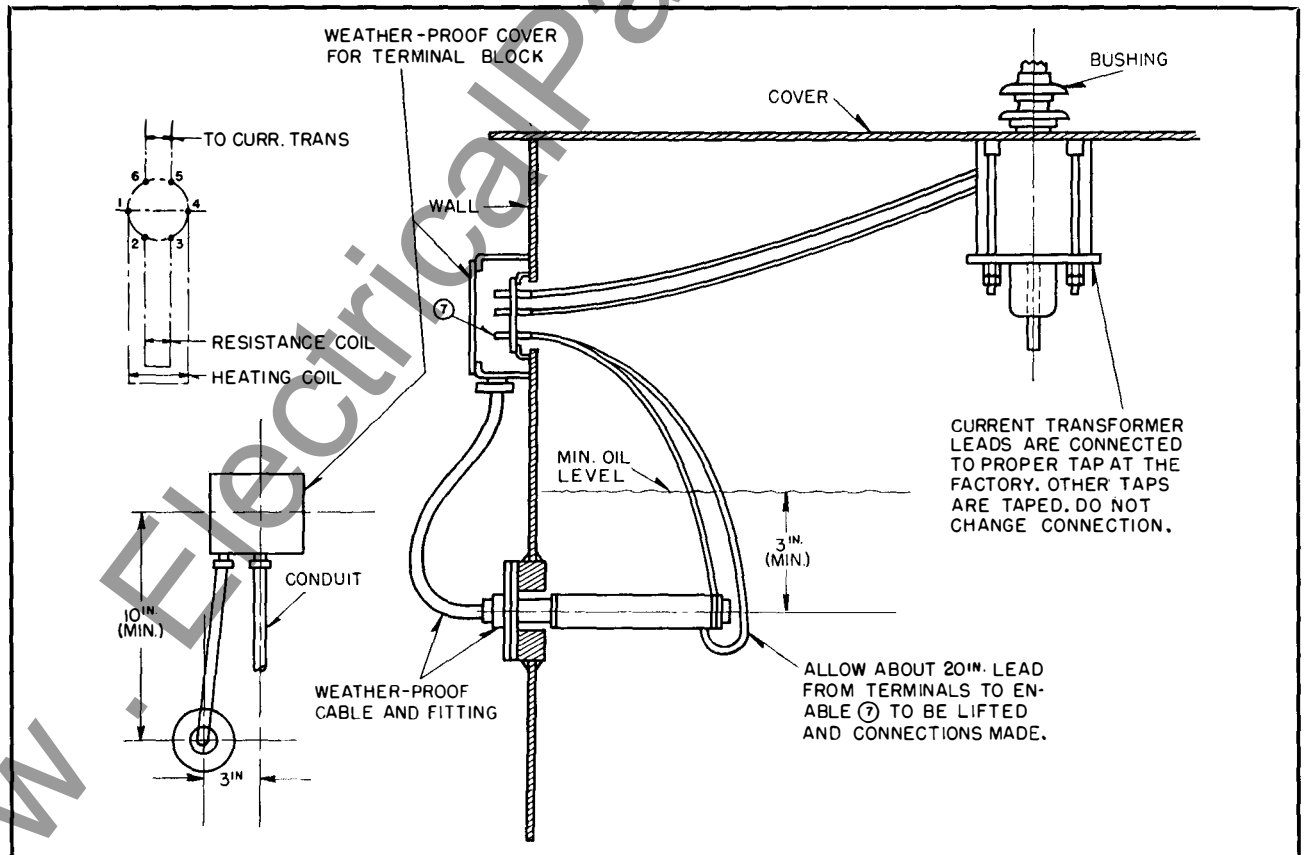

FIG. 5. Typical Installation with Bushing Current Transformer.
The external terminal box will always be in place, and will be covered by a weatherproof conduit box. It may be a box as shown in Fig. 5 or a large box to take care of a number of leads including some not for the hot spot indicator. The heating coil and resistance element form an integral unit which is shipped in place whenever possible. If this cannot be done, it is shipped in a separate package marked "Details".
2. Connect the two leads from the heating coil to the two studs marked 1 and 4 on the terminal block (on the inside of the transformer). See Fig. 5.